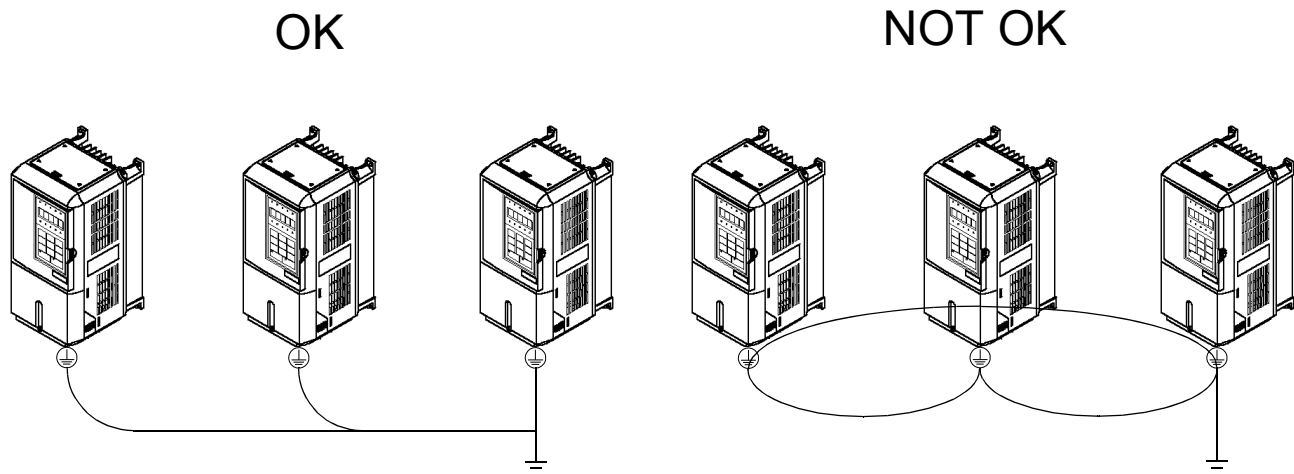

Figure 2.2 Ground Wiring Examples
5. When using more than one iQpump drive, be careful not to loop the ground wire. See Figure 2.2.